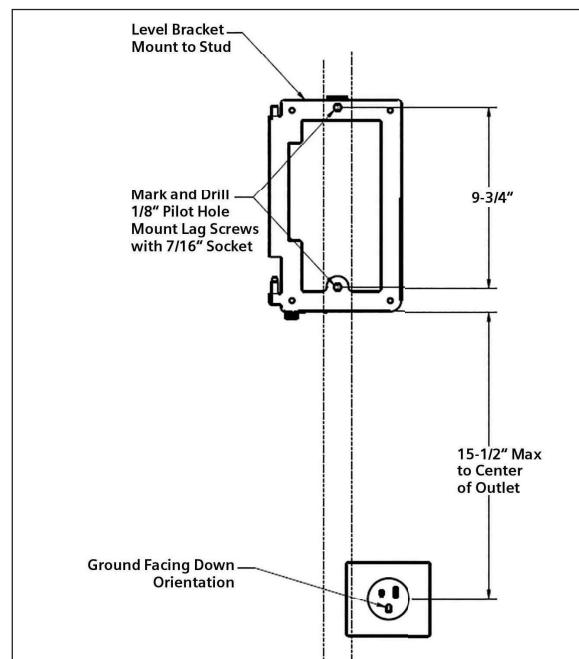

Figure 1. Align the mounting bracket and screw into the stud
1. A qualified electrician should install the outlet with the ground facing down (only the 40 A charger is available with a plug; the 48 A charger MUST be hardwired). See Section 2.2, Figure 1, for outlet positioning.